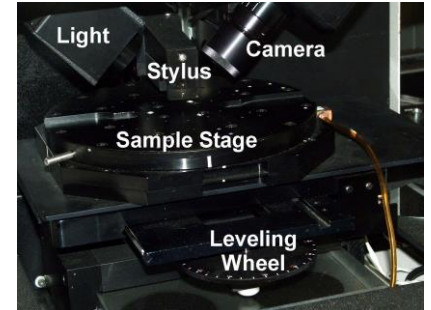

Fig 2
1. Turn Zoom/Focus knob [Fig 1a] fully clockwise to raise Stylus [Fig 2].
2. Turn illuminator knob counterclockwise [Fig 1b] until Light illuminates on Sample Stage. [Fig 2]
6. Place sample directly under Stylus on Sample Stage. [Fig 2]
7. Rotate Leveling Wheel [Fig 2] to value noted on machine.